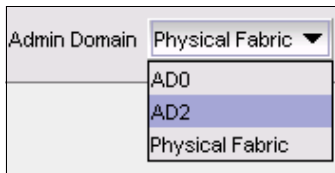

Figure 8-45 Web Tools: Admin Domain selection for AD2
7. When done, you can close the Admin Domain window to return to the main Web Tools window. The new Admin Domain AD2 is now available for selection in the Admin Domain pull-down menu, as shown in Figure 8-45.